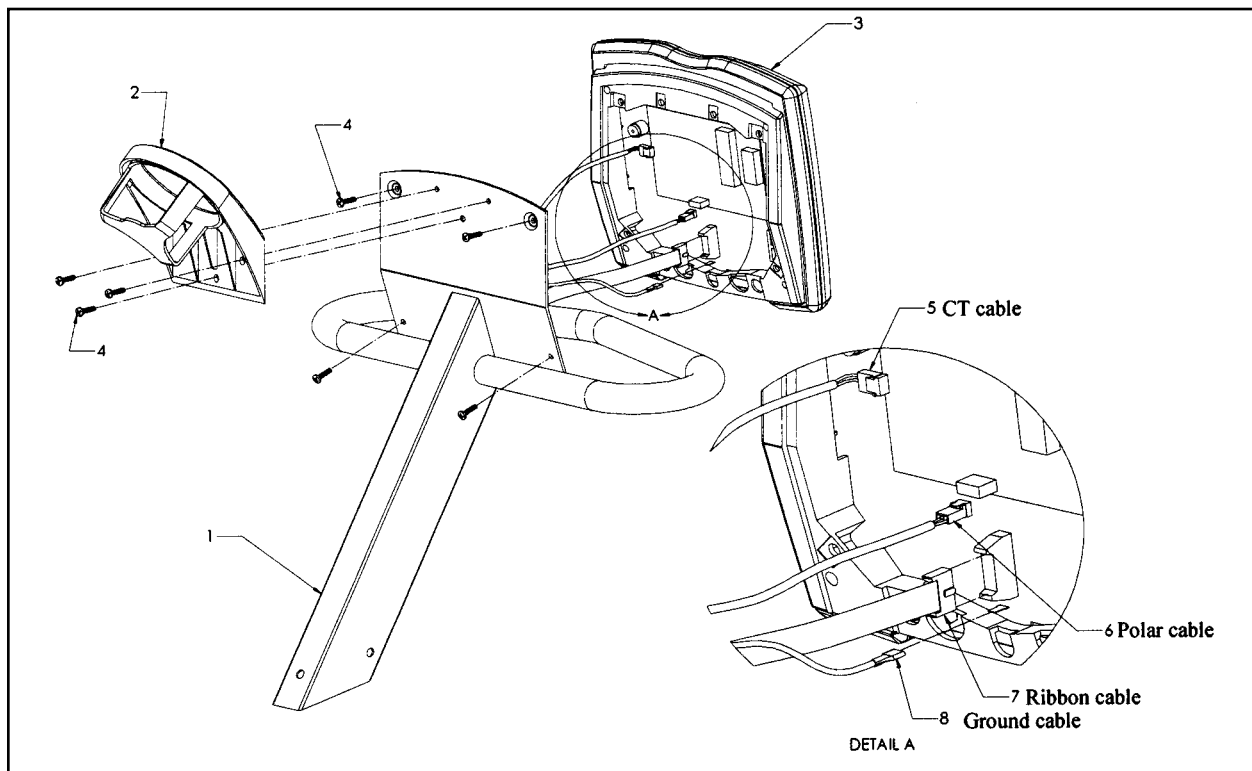

Figure 2
As shown in Figure 2, remove the display console (3) from the configuration kit. Attach the ribbon cable (7) from the display upright to the back of the display board. The connector is keyed so you cannot insert it backwards. Attach the green ground cable (8) to the single flat connector next to the ribbon cable connector. Make sure the cables are firmly connected before continuing.
If you have the CardioTouch or Polar heart rate monitor option, attach the heart rate monitor cable to the back of the console. See Figure 2, detail A.
Use the four Phillips-head screws (10) from the configuration kit to attach the display console to the console back-plate. See Figure 2.